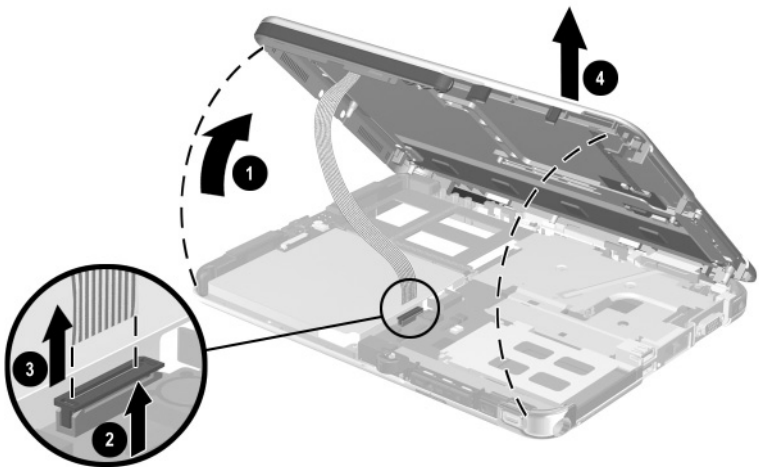

Figure 5-11. Removing the Display Panel Assembly
9. Lift and hold the front edge of the base enclosure ❶ until it rests at a 45-degree angle (Figure 5-11).
10. Release the ZIF connector ❷ to which the inverter cable is attached and disconnect the cable ❸.
11. Lift the base enclosure straight up ❹ to remove it from the display panel assembly.